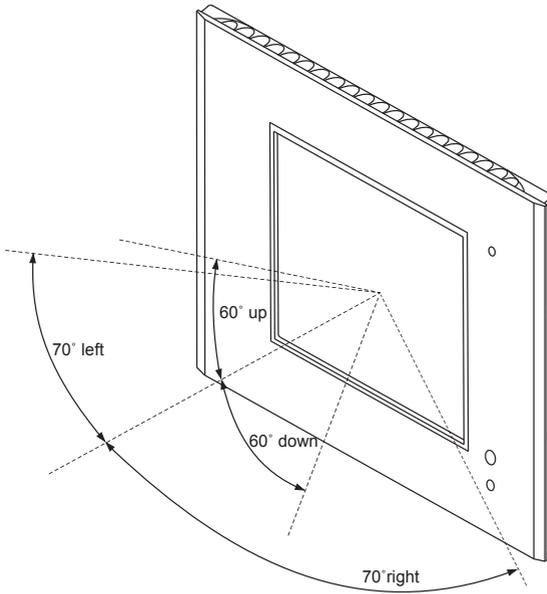

Figure 4. Touch screen viewing angles.
- The touch screen viewing angle is shown in Figure 4.